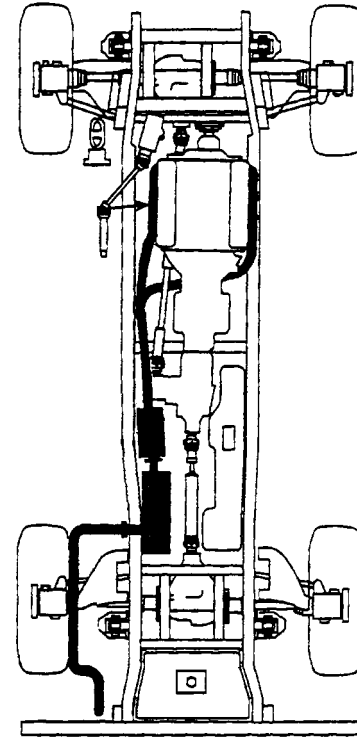

Figure 3-79: N/A Diesel
1. Remove fasteners attaching muffler and gasket to catalytic converter (Figures 3-79 and 3-80).